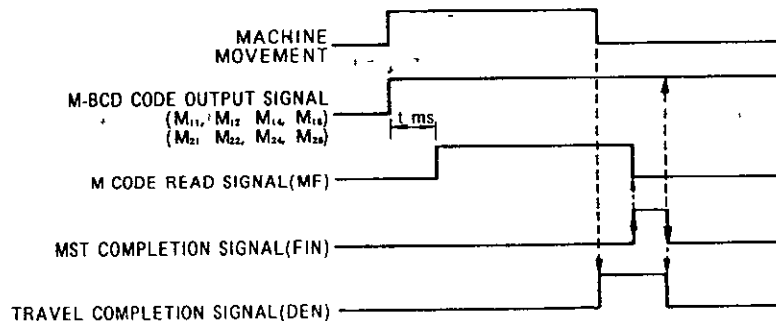

Fig 3 35
#### (5) Where several M-codes are commanded in the same block, the final command among commanded M-codes is effective. Fig 3 35 shows the time chart covering the above time relationship.